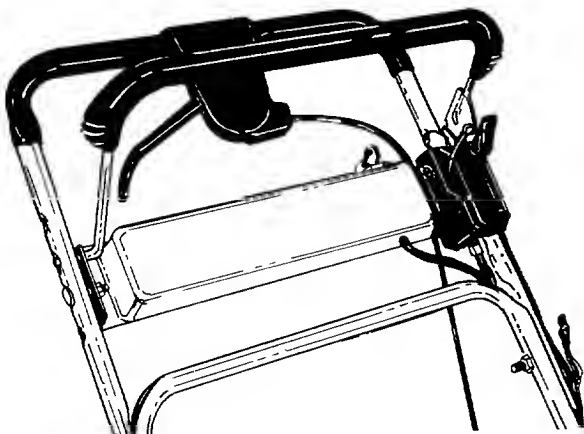

FIGURE 23.
**Blade Control**—Lubricate the pivot points on the blade control handle and the brake cable at least once a season with light oil. See figure 23. The blade control must operate freely in both directions.